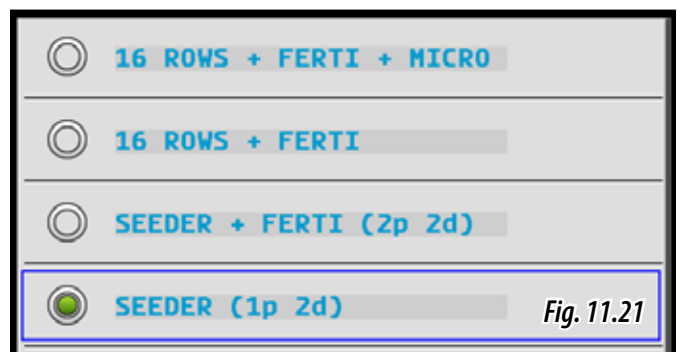

Fig. 11.21
16. The window with the machine's current settings opens; in this case, **cereal seed drill 1 product in 2 dispensers** (Fig. 11.21).